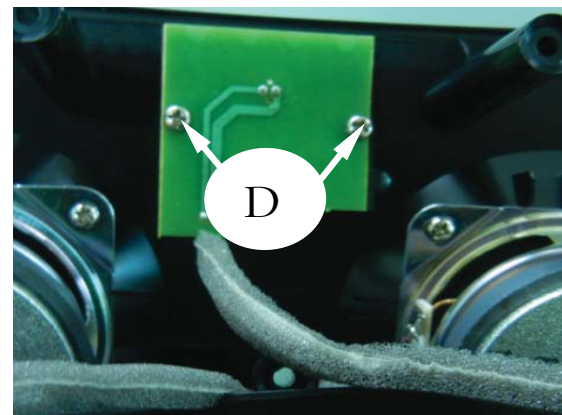

Figure6
- 2) Loosen 2 screw "D" as shown in figure6 to detach LED Board